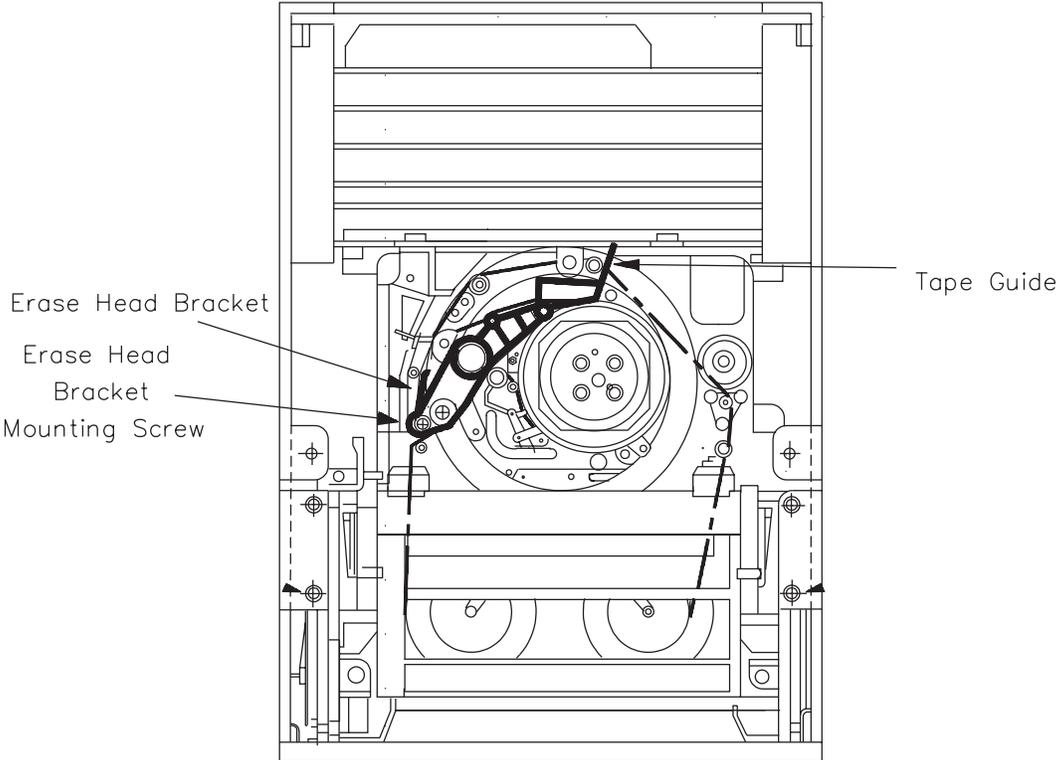

Figure 17-2
The erase head bracket is a molded black plastic part, as shown in Figure 17-2. It is mounted onto two posts. The erase head is attached to the bracket where the wires emerge and lead to the connector on the SV card.
1. Remove the small Phillips head screw that holds the erase head bracket in place (see Figure 17-2).
The tape guide is a molded black plastic part, as shown in Figure 17-2. It looks like the boom on a crane and is mounted on three posts as shown. The largest post is the primary mounting post, and the other two posts are guides for correct positioning of the tape guide.